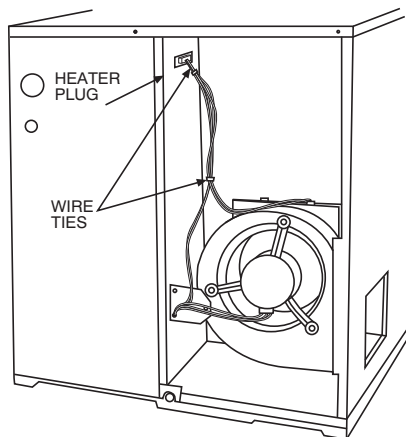

Figure 7 – Removal of Right Side Back Panel
- a. Removal of the right side (side with electric access), right back panel to access components above. (See Figure 7.)